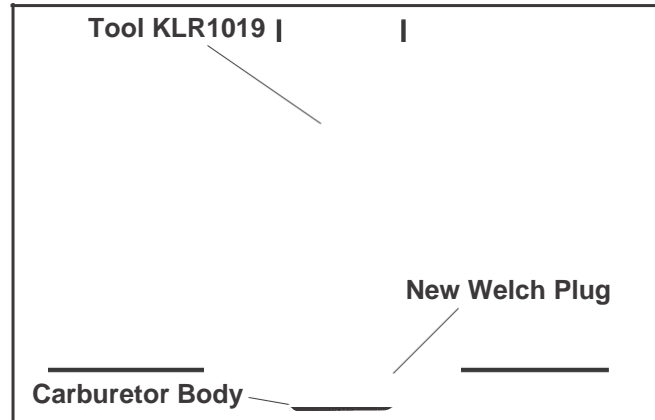

Figure 5-13. Installing Welch Plug.
3. Use the end of the tool that is about the same size as the plug and **flatten** the plug. Do not force the plug below the surface of the cavity. See Figure 5-13.